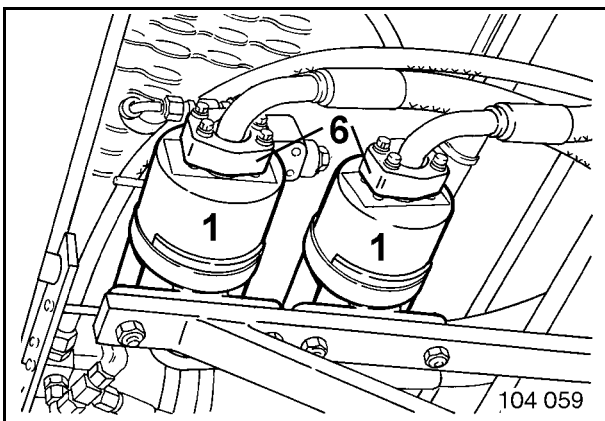
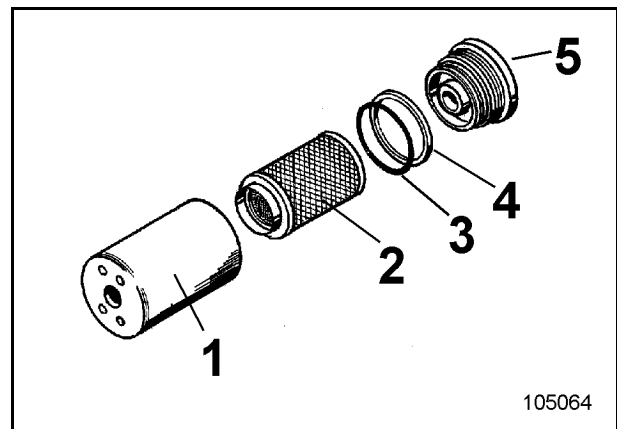

Fig. 3-83:
Fig. 3-84:
- Loosen flange (6, Fig. 3-83:).
- Unscrew cover (5, Fig. 3-84:).
- Withdraw filter element (2) together with sealing ring (3) and retaining ring (4) from housing (1).
- Clean filter element (2) with white spirit or paraffin oil.
- Insert filter element into filter housing (1) and refit with new, lightly oiled sealing ring (10) and a new retaining ring (4).
- Screw cover (5) into housing (1).
- Refit flanche (6, Fig. 3-83:) to housing (1).